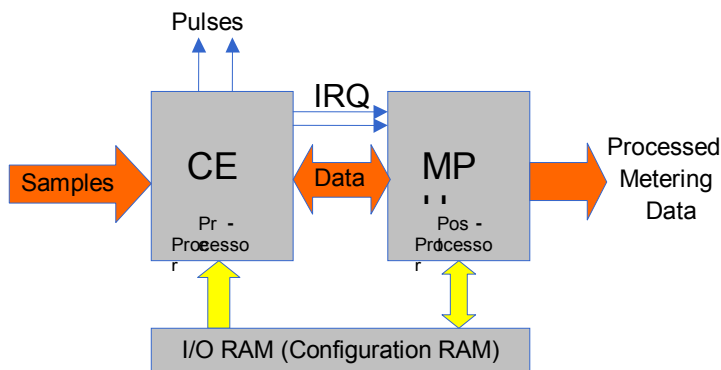

Figure 6: MPU/CE Data Flow
The data flow between the Compute Engine (CE) and the MPU is shown in Figure 6. In a typical application, the 32-bit CE sequentially processes the samples from the current and voltage inputs on pins IA, VA, IB, and VB, performing calculations to measure active power (Wh), reactive power (VARh), A^2h , and V^2h for four-quadrant measurement. These measurements are then accessed by the MPU, processed further and output using the peripheral devices available to the MPU.